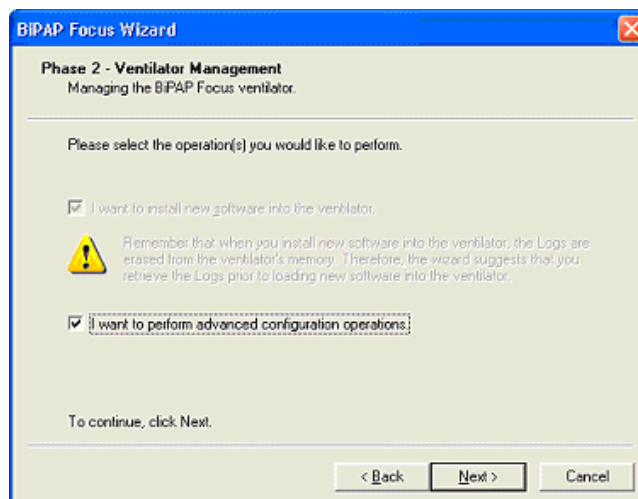

Figure 6-24: Ventilator Management Screen
5. Click Next, the Ventilator Management dialog box appears (Figure 6-24), which allows loading new software into the ventilator configuration or selecting Advanced configuration operations.